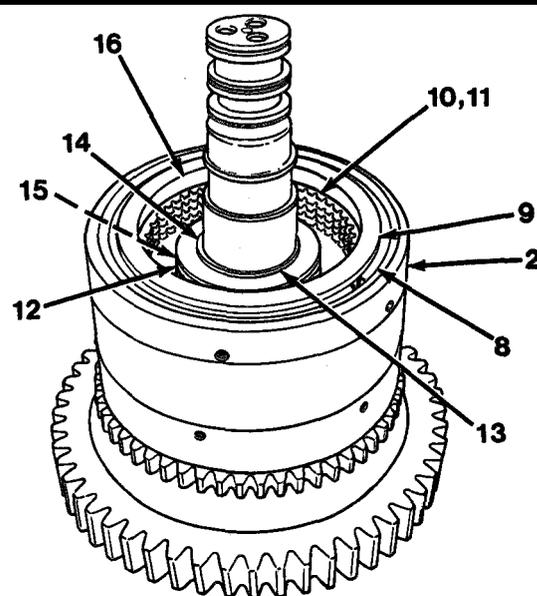

Figure 11-4
8. Remove snap ring (8), clutch plate retainer (9), four clutch plates (10) and clutch separator plates (11, Figure 11-4).
9. Compress four springs (12) and hold down to remove snap ring (13).
10. Remove snap ring (13) from clutch shaft assembly (2).